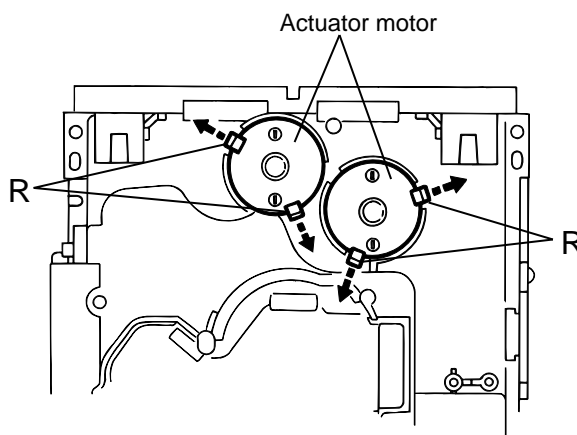

Fig.20
5. After turning over the chassis assembly, remove the actuator motor while spreading the four pawls “R” fixing the right and left actuator motors in the arrow direction(See Fig. 20).